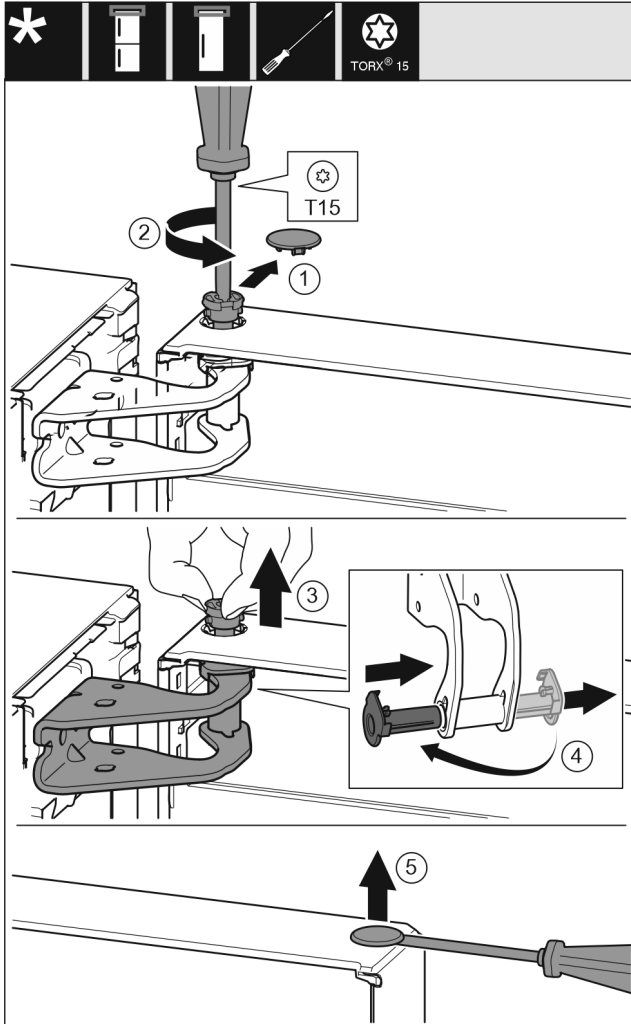

Fig. 12
- ▶ Carefully remove the protective cover. *Fig. 12 (1)*
- ▶ Loosen the bolts slightly with a T15 screwdriver. *Fig. 12 (2)*
- ▶ Hold the door and remove the bolts with your fingers. *Fig. 12 (3)*
- ▶ Pull the bearing bush out of the guide. Insert from the other side and latch into place. *Fig. 12 (4)*
- ▶ Carefully lift the plugs out of the door bearing bush with a slotted screwdriver and remove them. *Fig. 12 (5)*